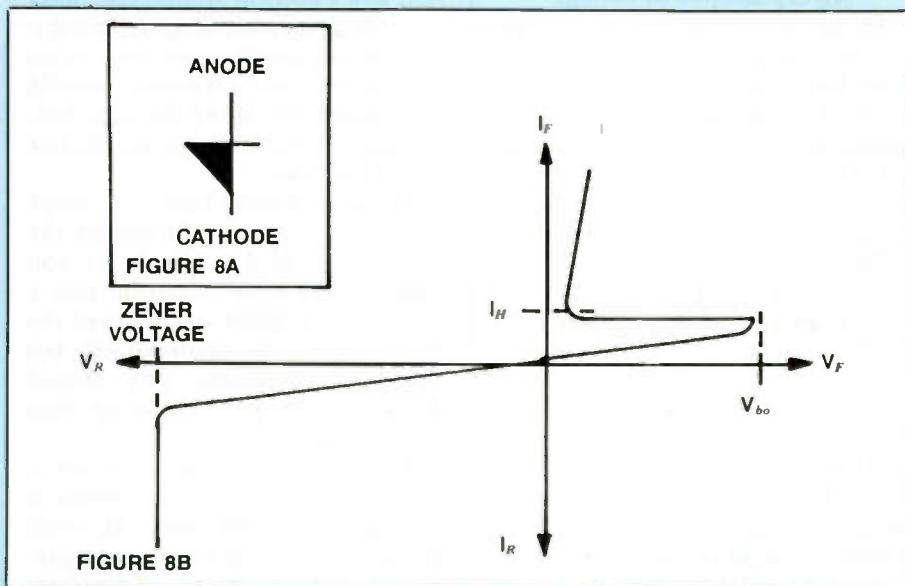

Figure 2
4. The symbol in Figure 2 is for a \_\_\_\_\_.